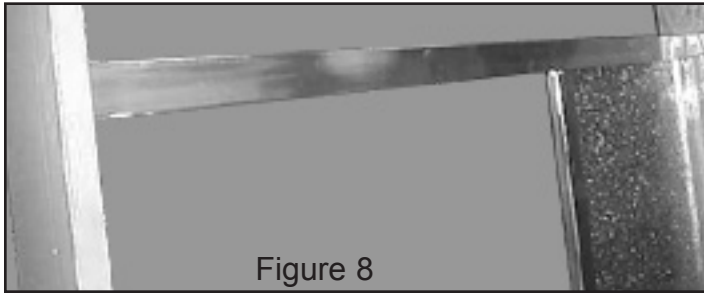

Figure 8
A. Place the Header (#1) over the vertical pieces of metal, as shown in Figure 8.